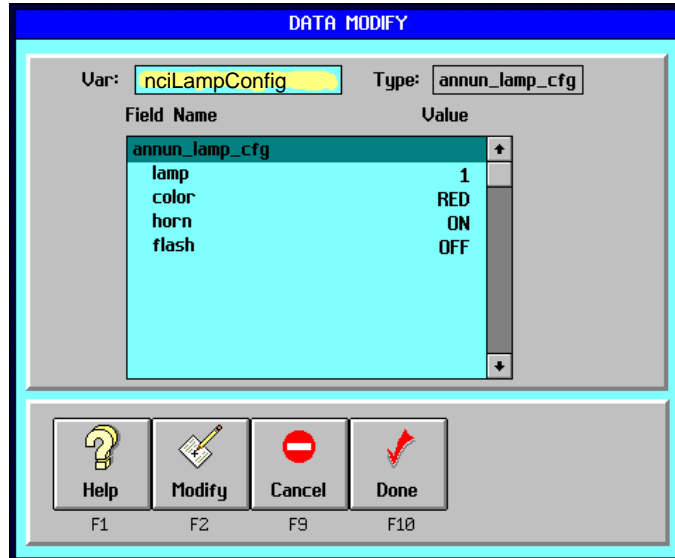

FIGURE 8. CONFIGURING ANNUNCIATOR LAMPS IN LONMAKER
5. Select "lamp" field and select "Modify" (F2). See Figure 8.